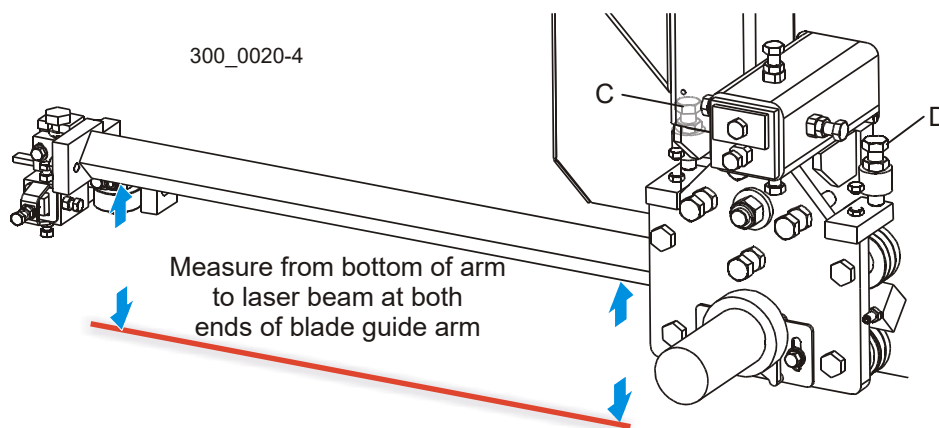

FIG. 3-22
See Figure 3-22. Adjust the blade guide arm all the way in. Measure from the bottom of the arm to the laser beam at both ends of the arm. The two measurements at each end of the arm should be the same within 1mm (1/32"). To adjust the vertical tilt of the arm, adjust the bolts (C & D) on the blade guide arm mounting plate. Loosen the jam nuts. Adjust bolt (C) up and bolt (D) down to tilt the arm up. Adjust bolt (D) up and bolt (C) in to move the arm toward the blade. Recheck the distance from the arm to the laser beam at both ends of the arm. Readjust if necessary. Tighten the jam nuts.